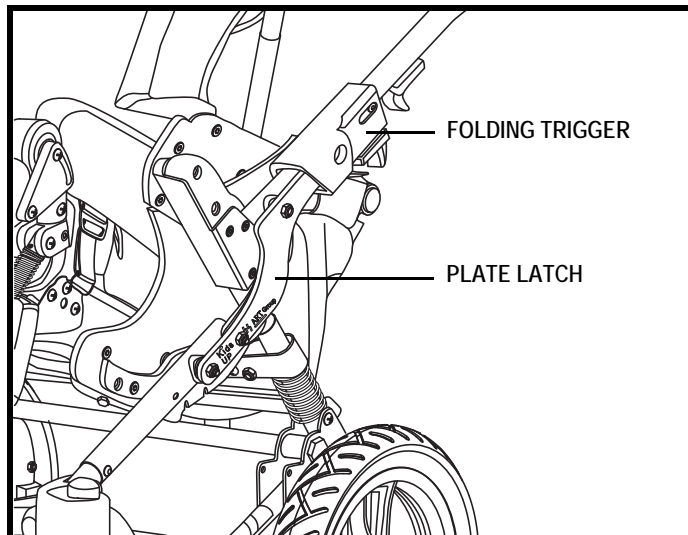

Figure 12. The Kids FAST Trigger and Plate Latch
3. Pull the folding triggers rearward until they are free from the plate latches. **See figure 12.**